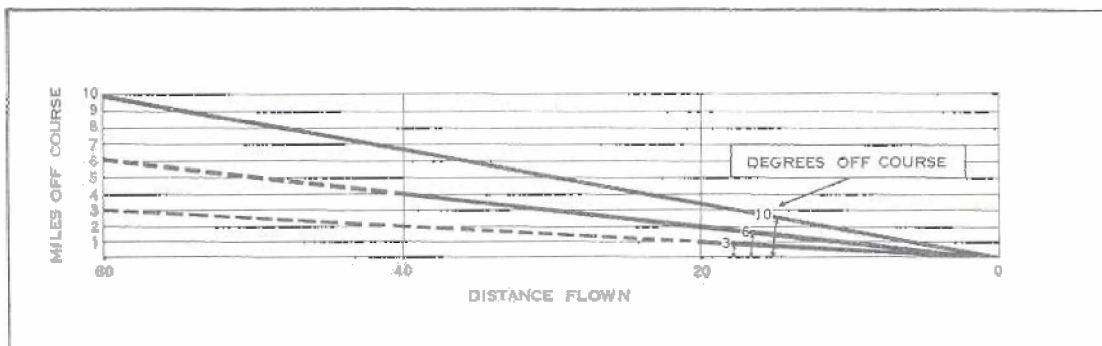

Figure 3: The "One-in-Sixty" Rule
(1) One of the greatest assets a pilot can have on a cross-country flight is the ability to do rapid, mental calculations. You should practise Mental DR, because you are going to need it and it is invaluable when you have to work problems in the air with only the aid of a pencil, a log form and a map. A few simple formulae and aids to rapid calculation have been developed, and are given here for your information.
(2) **THE "ONE-IN-SIXTY" RULE** - The "One-in-Sixty" rule is based on one mile subtending an angle of one degree at a distance of sixty miles. (See Figure 3.) If you have had to divert from your prepared flight-plan route and are "making good" a track to a known destination, it is possible to estimate any track error without the help of five-degree lines. All you have to know is the map scale, so that you can estimate the distance you are off track. To convert miles off track into degrees of track error, from which to find the opening angle, you use the following formula: